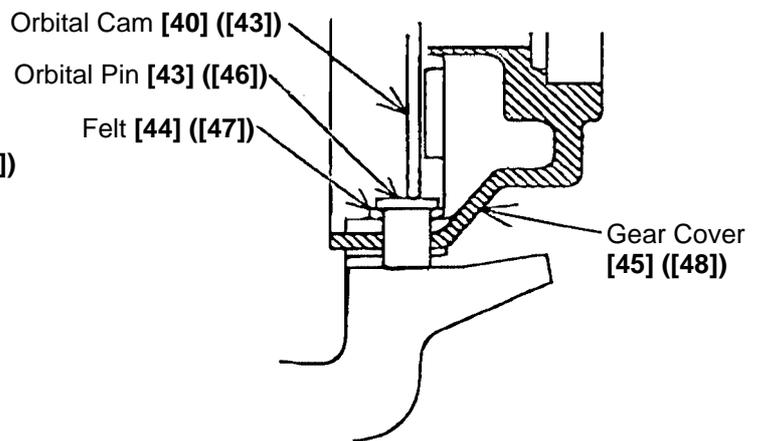

Fig. 16
(4) During reassembly, be very careful not to forget to install the Felt [44] ([47]) at the lower portion of the Orbital Cam [40] ([43]), as shown in Fig. 16.